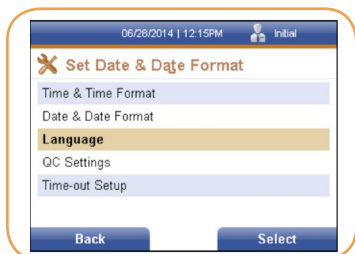

FIGURE 8
3. Select the desired language, then press the right soft key to accept the changes or the left soft key to discard any changes. Either returns the user to the previous menu (Figure 8).